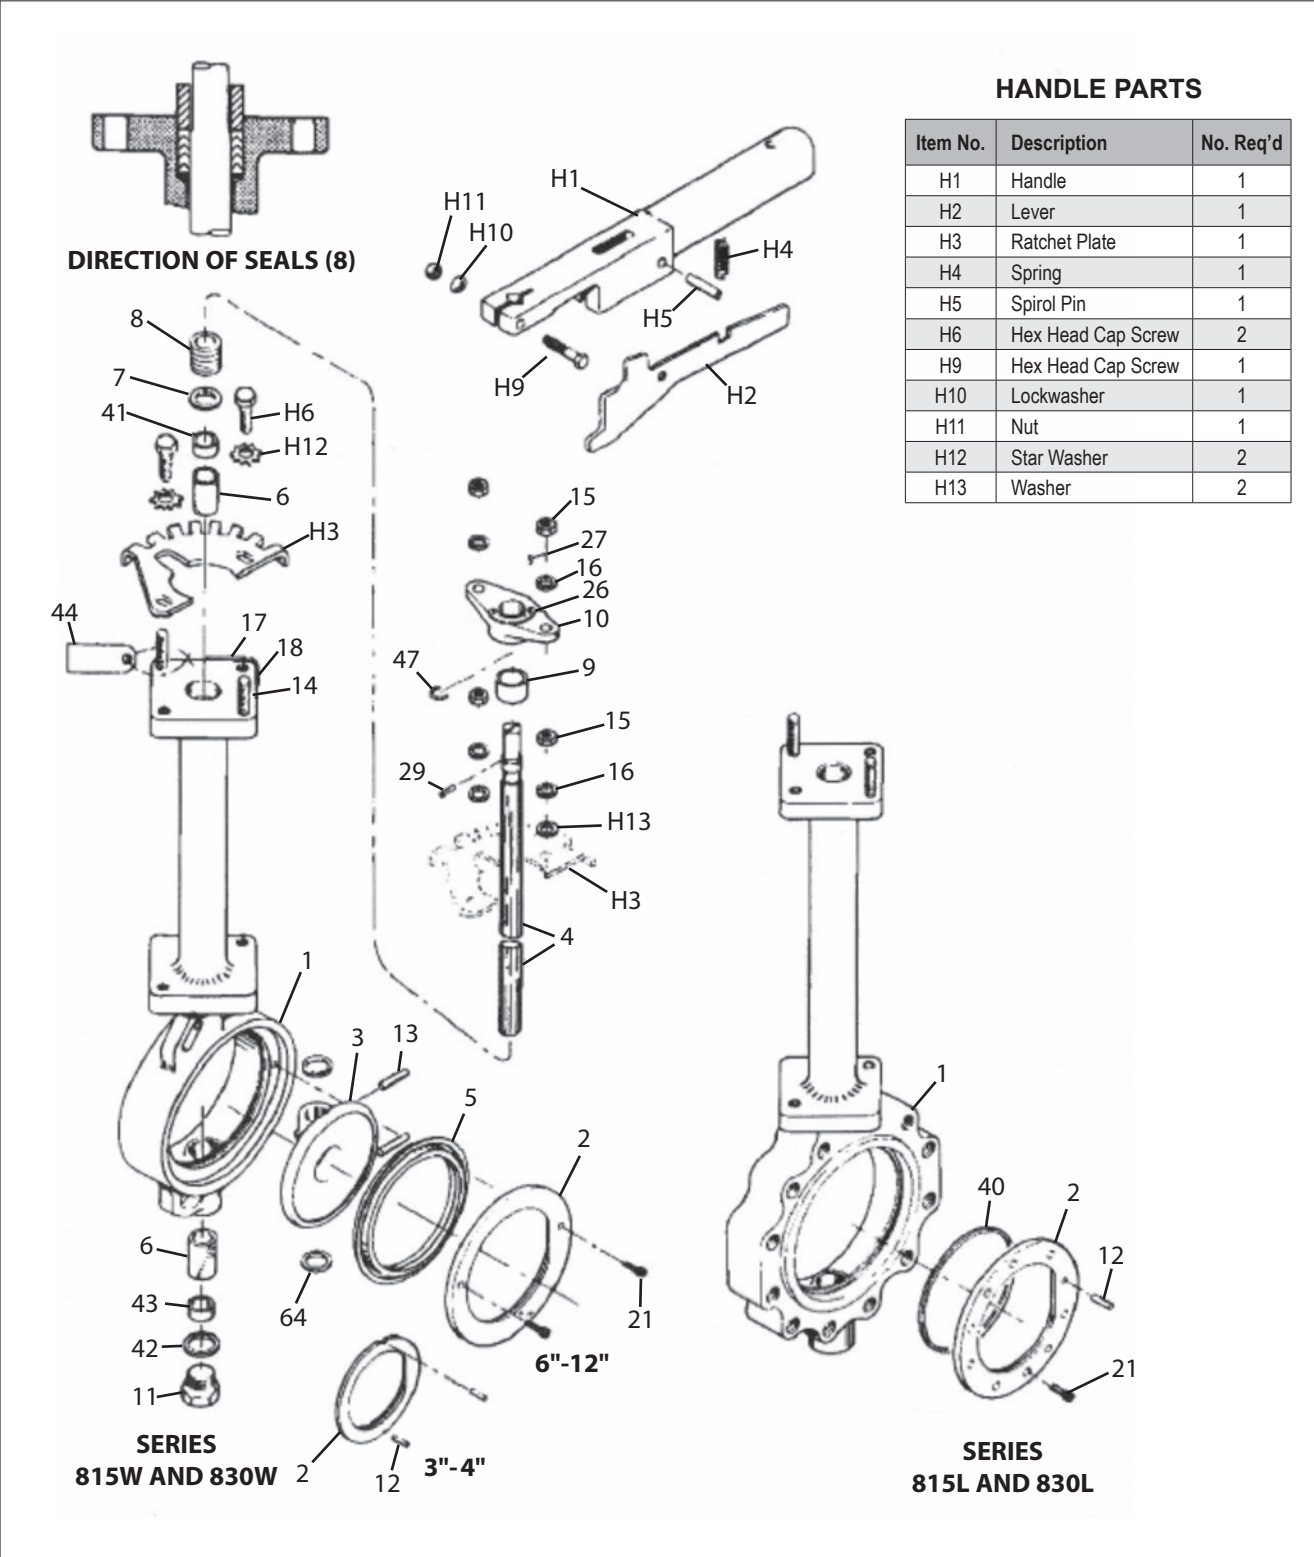

Figure 12.
3. Place the coupling onto the valve stem. If the valve has a two-piece "no-play" bolted coupling, assemble the coupling loosely on the valve stem. Use socket head cap screws and lock nuts. (See Figure 12)